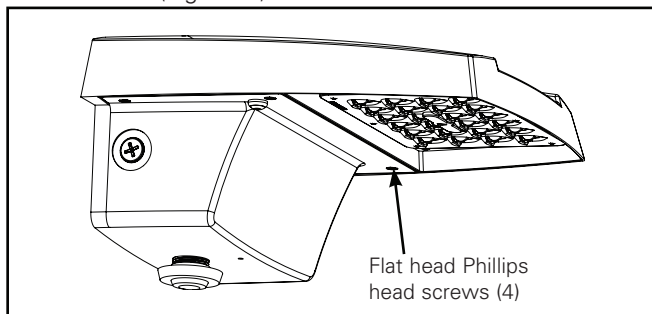

Figure 9.
- To access the inside of the fixture, loosen the 4 flat head Phillips screws and separate the fixture housing from the drop door. Note the screws are captive to the door. They do not need to be completely removed from the door. (Figure 9.)